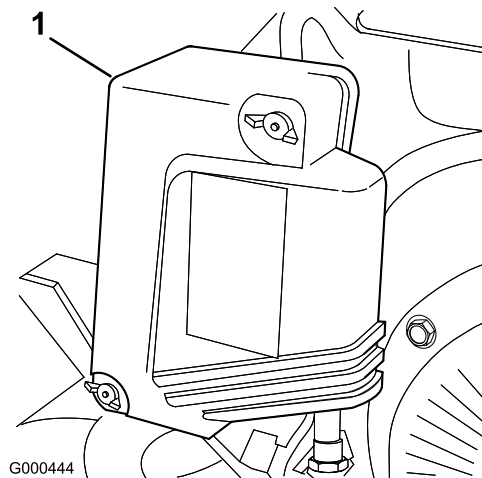

Figure 23
2. Remove the wing nuts securing the air cleaner cover and remove the cover (Figure 23).